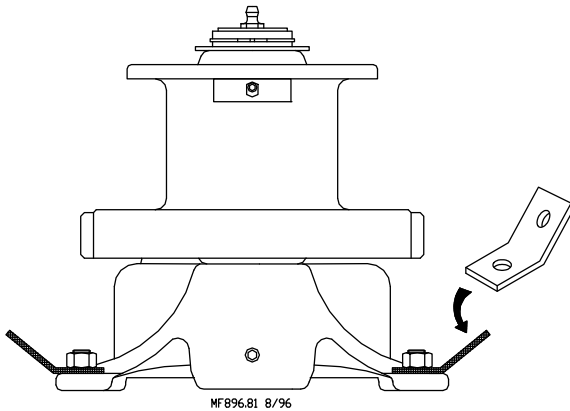

Figure 9. (End View)
2. Attach the Power Winch to the winch support 2"x8"[50 x 200mm] board or angle iron fixture. Install a Cable Hook (#2985) between the mounting bolt and Power Winch frame, as shown in **Figure 9**.